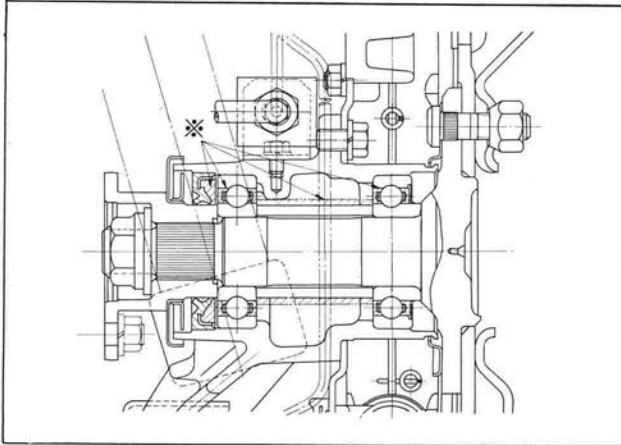

Fig. RA-25 Lubrication chart of rear axle
1. The outer bearing is provided with a seal in one side. Apply the outer bearing to the rear axle shaft so that the side to which the seal is attached is faced to the wheel. (See Figure RA-25)
Fill the portion indicated by asterisk (\*) in Figure RA-25